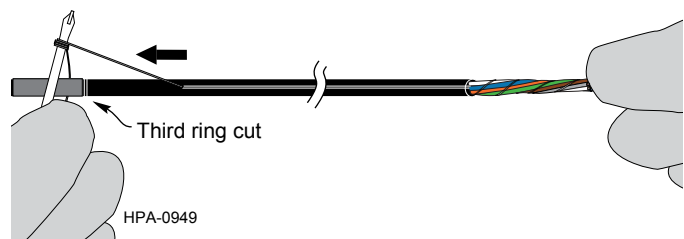

Figure 17
Step 8: Wrap the end of one of the exposed ripcords around the shaft of a small screwdriver and pull it through the outer jacket until it passes through the third ring cut at the tape wrap (Figure 17).